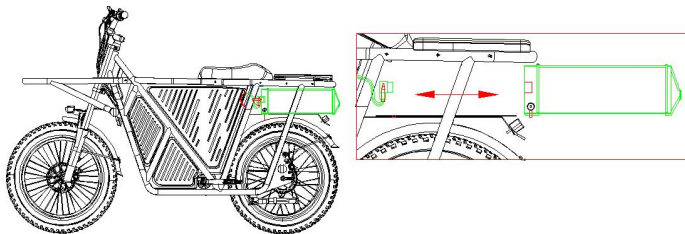

Figure 2-1-6
2.6.Install the battery: First rotate the key to the open position, align it with the slide rail groove and install it into the frame (note: install the battery box into the 2/3 position of the frame, insert the power head into the output port, and finally push the battery to align with the track) key hole, turn the key to the closed state), and the battery box assembly is completed (Figure 2-1-6).